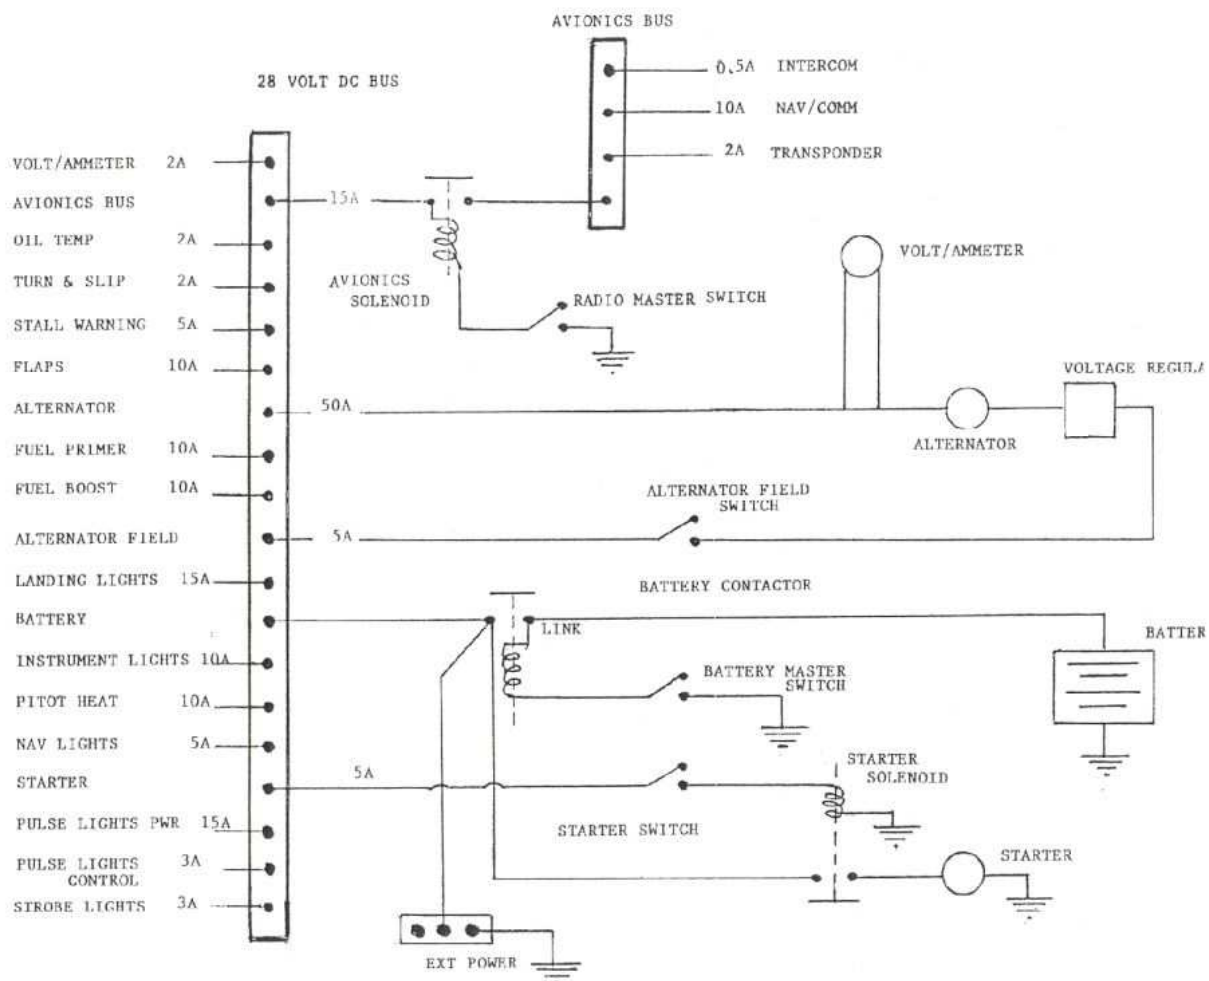

Figure 1-9 Electrical System Schematic
64. The cabin heat is controlled by operating a flexible push-pull type cabin heat knob (Figure 1-9) located on a bracket just beneath the instrument panel on the left side of the cabin. The knob is labelled CABIN HEAT PULL. If the knob is pulled to its full aft position, heat is emitted to both cabin compartments. Pushing the knob in all the way stops the flow of heated air.
65. The windscreen defrosting and front compartment heat is controlled by operating a flexible push-pull type control (Figure 1-9) located on a bracket just beneath the instrument panel on the right side of the cabin. The knob is labelled DEFROSTER AND PILOT HEAT PULL. When the knob is pulled out, heat is ducted to the defroster and front compartment. Pushing the knob in all the way stops the flow of heated air.
- c. **Oil Temperature** – The electrical, resistance type, oil temperature gauge (Figure 1-9) is calibrated in 10-degree increments from -70 to +150 degrees Celsius. The gauge receives its power from the bus bar; and
- d. **Oil Pressure** – An oil pressure gauge (Figure 1-9) is pressure activated and is calibrated in 10 PSI increments from 0 to 150 PSI.
73. An eight-day, stem-wound, aircraft clock (Figure 1-9) is mounted on the instrument panel.